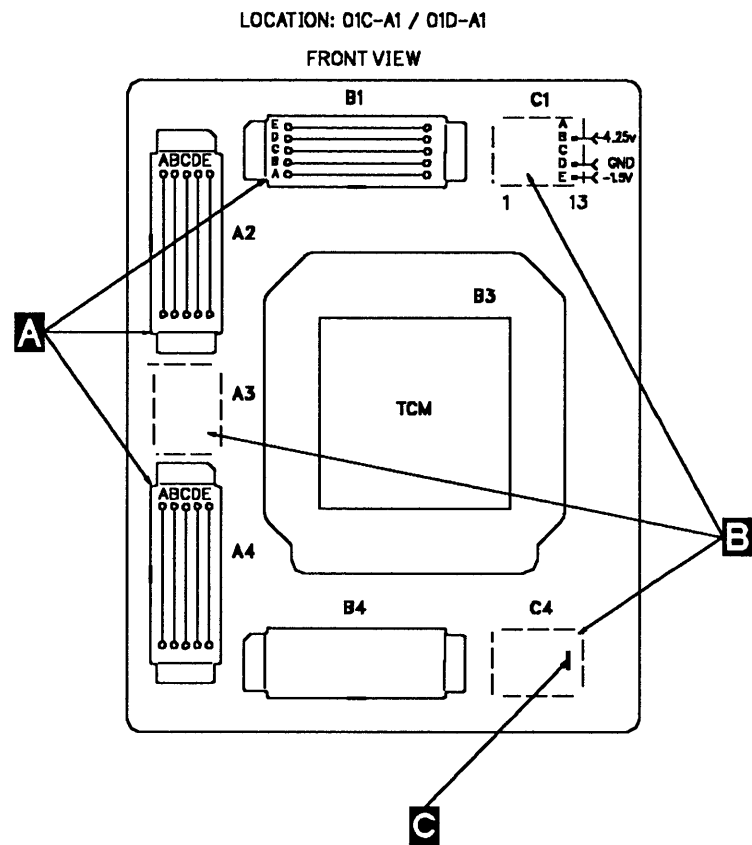

Figure 5-168. TCM Board
1. Referring to Figure 5-168 on page 5-168: